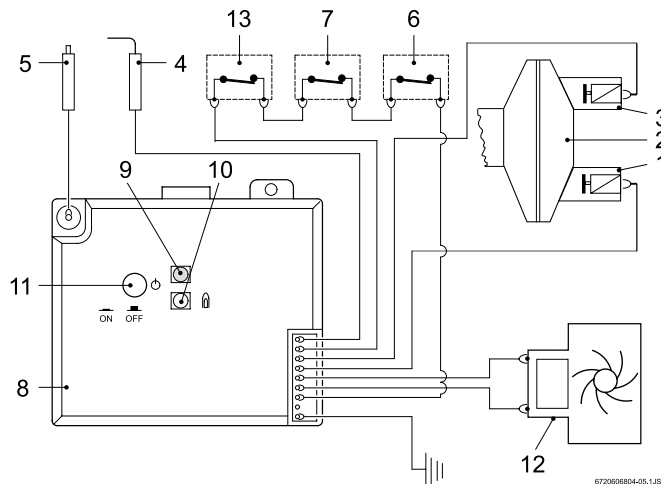

Fig. 13 - Electrical wiring diagram
4. Pilot electrovalve switch may need to be replaced (See Fig 13).
Measure milivoltage at pilot electrovalve (see Fig. 13).
5. Electronic Control Box may need to be replaced (See Fig 13).
Check wire connections and test operation of electronic control box (see Fig. 13).
Measure millivoltage at burner electrovalve (see Fig. 13).
- 4. The Electronic Control Box (Fig. 13) may need to be replaced.**